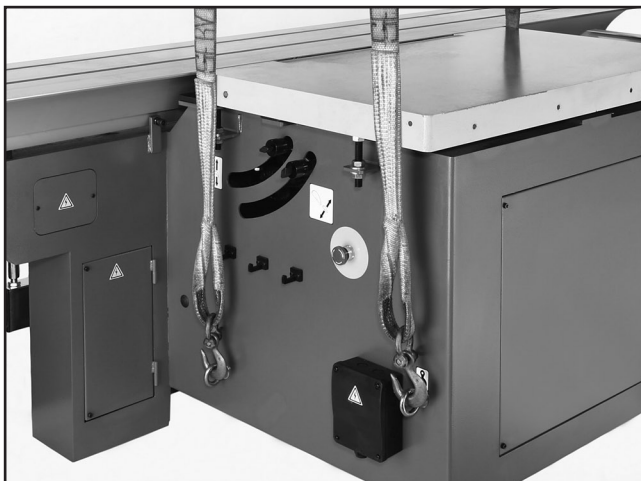

Figure 18. Lifting the saw base unit.
2. Place two lifting straps over the forks and attach the ends to the lifting bolts as shown in **Figure 18**.